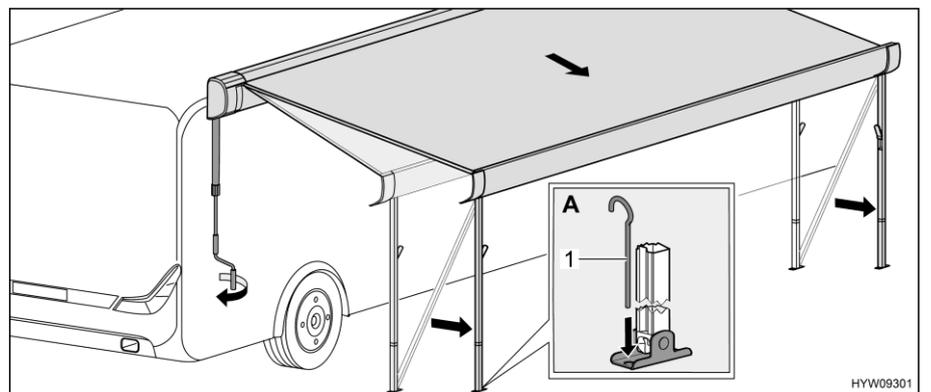

Fig. 31 Bringing awning into end position
- Fix the support legs to the floor with tent pegs (Fig. 31,1) (Fig. 31,A).